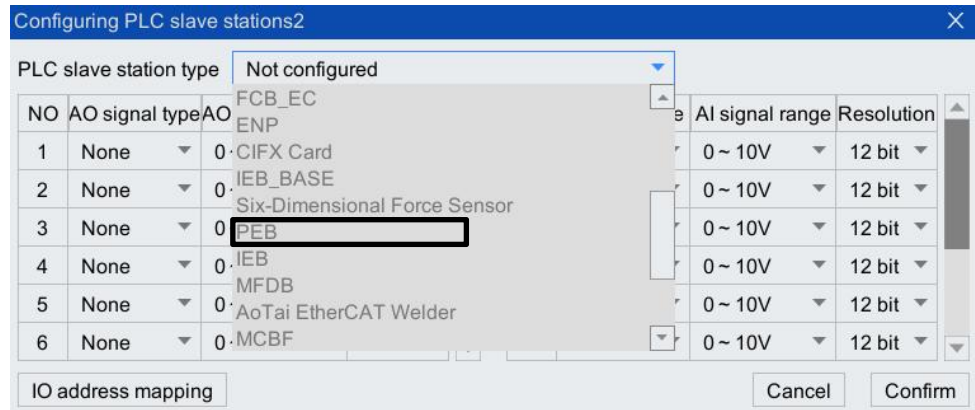
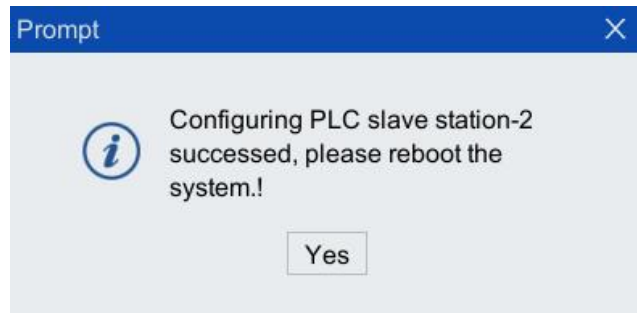

Figure 8-21 PLC slave-2 configured as PEB
Figure 8-22 "PLC Slave-2 Configured Successfully" dialog box
Step2. Select "PEB" from the drop-down list on the right of "PLC Slave station Type", as shown in Figure 8-21. Click <Confirm> button in the bottom right corner of the interface. After "Configuring PLC Slave station-2 succeeded, please reboot the system!" dialog box in Figure 8-22 pops up, click <Yes> button, power off and restart the control cabinet. Refer to Table 8-4 for the description of slave station types, and Table 8-5 for the description of PLC slave station configuration.